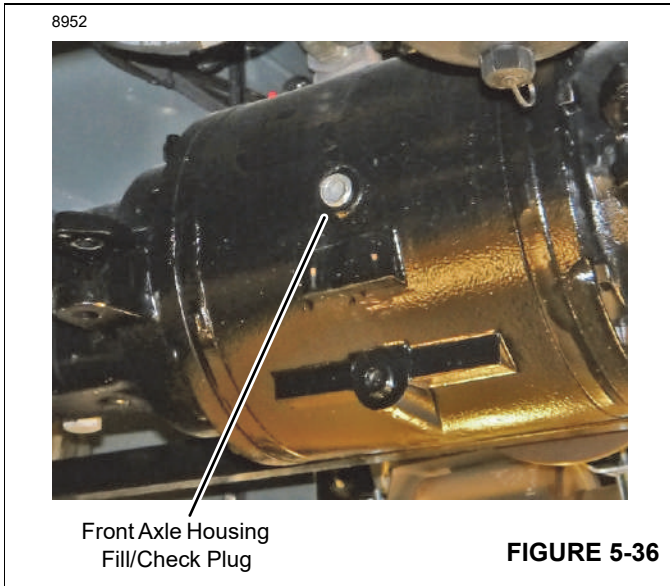
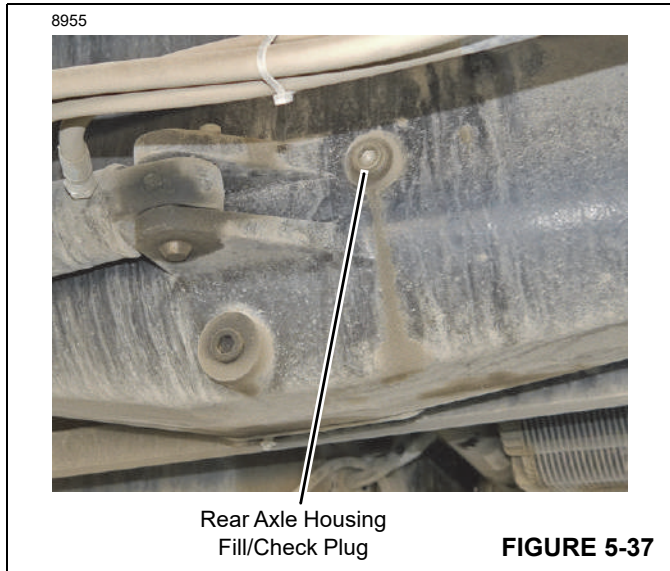

FIGURE 5-36
FIGURE 5-37
1. At either axle, clean around the axle housing fill/check plug (Figure 5-36 or Figure 5-37) and remove it.